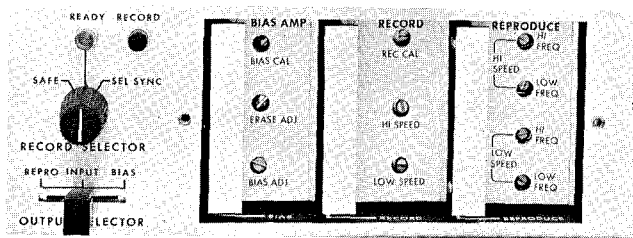

Fig. 2-5. Printed Circuit Boards, in Position
e. The record/reproduce plug-in electronic printed circuit boards are located behind a cover (see Fig. 2-5) which is secured by two screws to the front panel of the electronics assembly. Check that the bias amplifier board, the record board, and the reproduce board are in position.